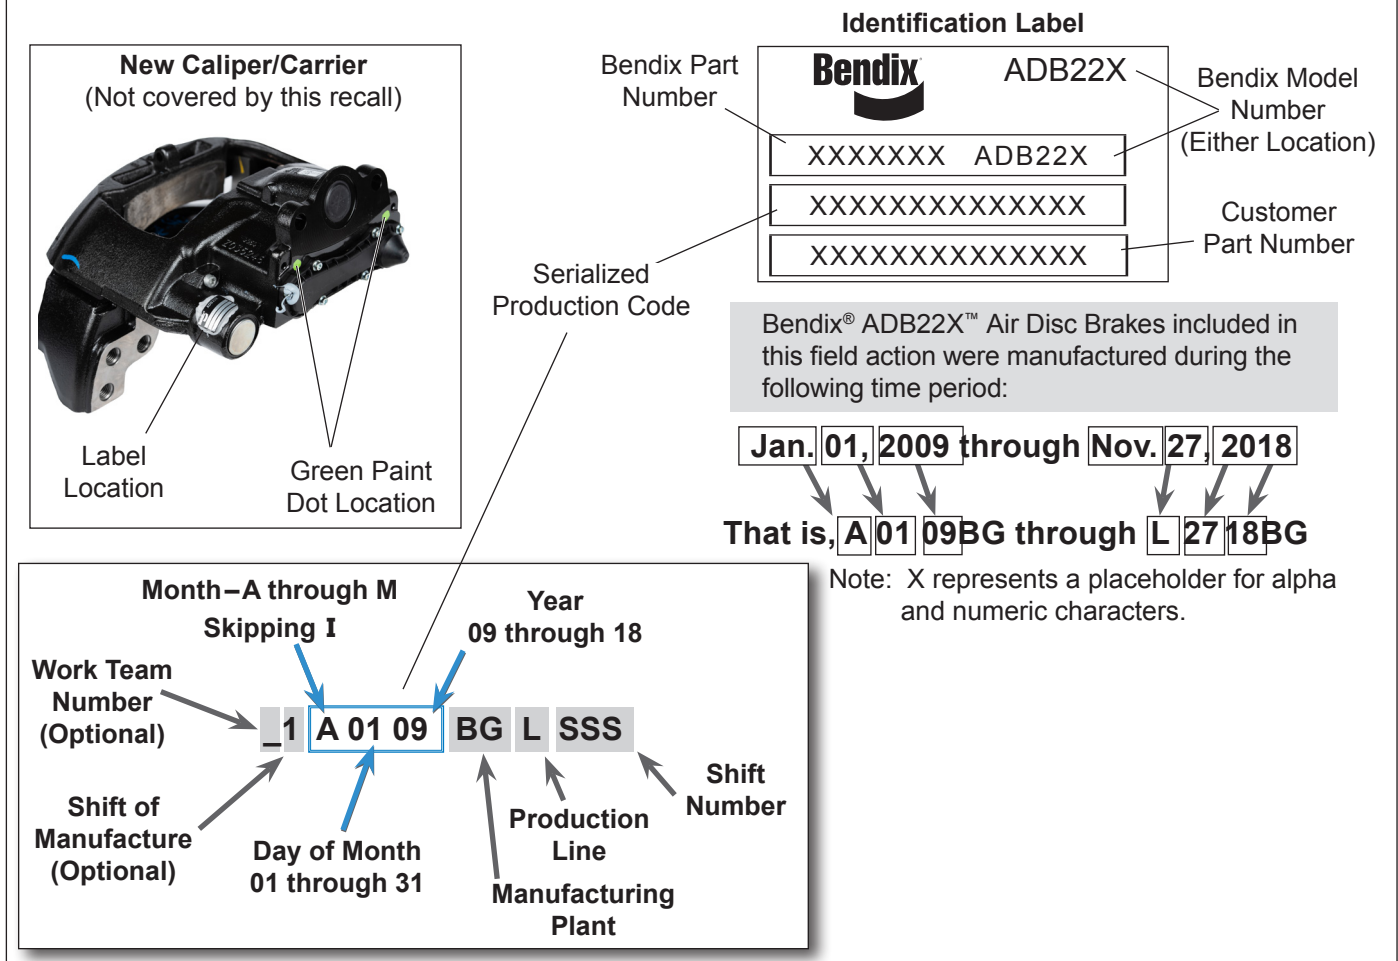

Figure 2 – Bendix® ADB22X™ Air Disc Brake Identification Label
4. Verify the caliper/carrier is a part of the recall campaign by checking for a **green paint dot** in the location shown in Figure 2. This green dot indicates that the Bendix® ADB22X™ Air Disc Brake caliper/carrier was already replaced as a part of the recall campaign.
5. If a green dot is not visible, look for the part number label on the caliper as shown in Figure 2. This may require the removal of paint and road debris to clearly identify the brake assembly. Go to the *Identification Label* section for interpretation of the identification label.
The identification label contains the part number, brake model, serialized production code, and, in some cases a customer part number. See Figure 2 for the interpretation of the identification label.